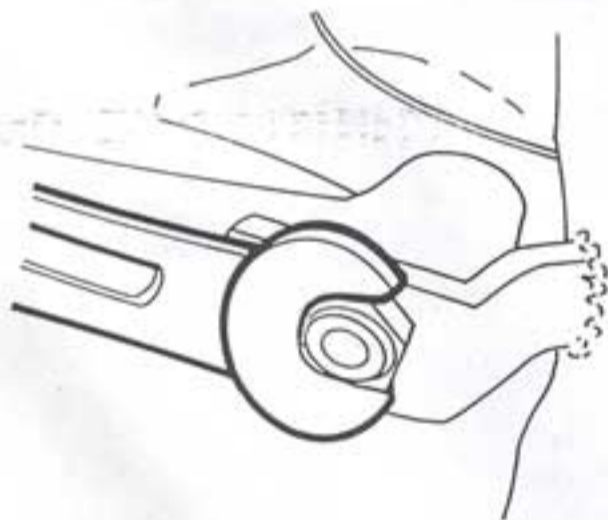

Fig. 3
- Remove the swing arm pivot shaft and nut (17mm wrench, fig. 3 and 4).